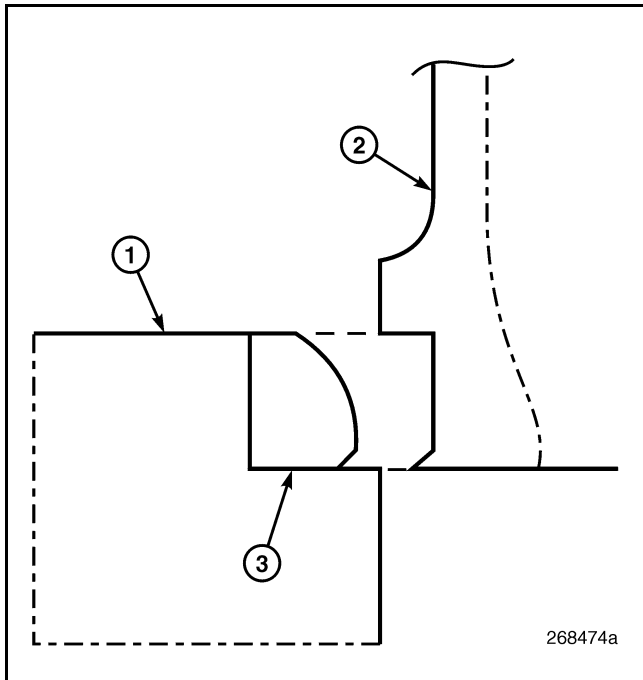

Figure 262 — Collet Positioning
3. Position the collet in the valve seat insert so the ridge of the collet will grip the chamfer on the inner upper edge of the insert (Figure 262). Turn the T-handle to fully expand the collet.